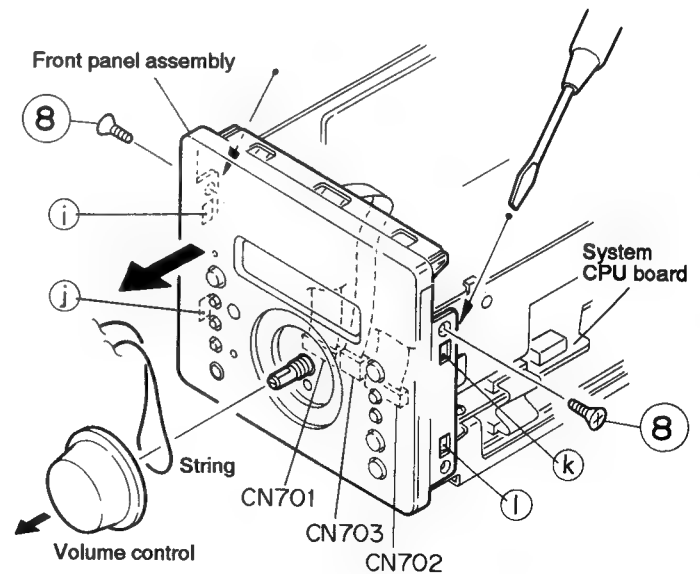

Fig. 5-27
2. Remove the volume control toward the front side so carefully as not cause any damage to the front panel assembly. When it is hard to remove the volume control, pass a string into the clearance between the volume control and front panel assembly, and slowly remove the control while hooking it between the clearance (See Fig. 5-27).
4. Remove the two screws ⑧ from the right and left and right side faces of the body (See Fig. 5-27).
5. After disengaging the four engagements ①, ②, ③ and ④ between the front panel assembly and chassis, remove the front panel assembly toward the front side in the arrow direction (See Fig. 5-27).
7. Remove the card wires respectively from the connectors CN701, CN702 and CN703 on the system CPU P.C. board (See Fig. 5-27/5-28).